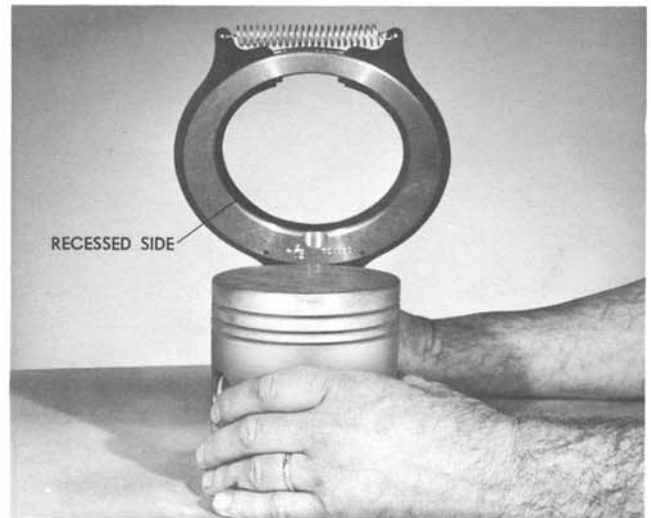

FIGURE 26. INSTALLING RINGS WITH RING EXPANDER
2. Hold the ring tool with recess side up and place the ring in with the bottom side up. Start with the lowest ring first (Figure 26).